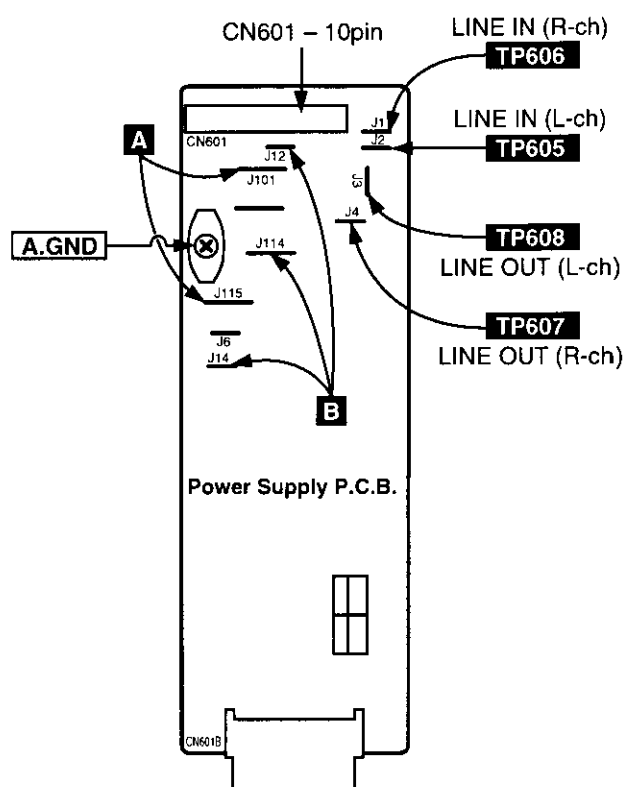

Fig. 2
1. Short between J101 and J115. **A** (Fig.2)
2. Short J12, J14 and J114 with each other. **B** (Fig.2)